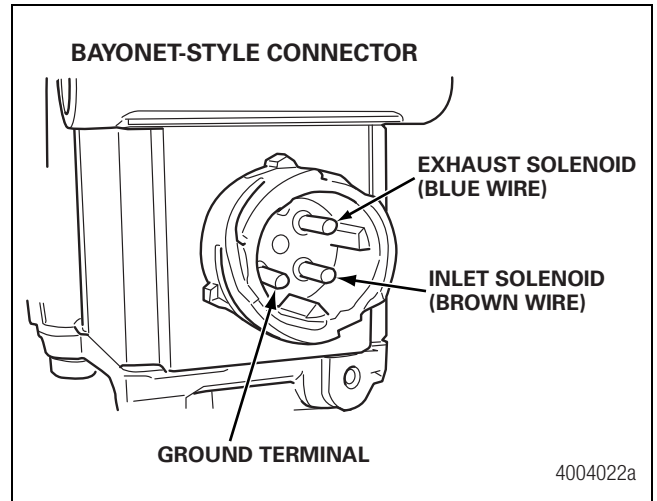
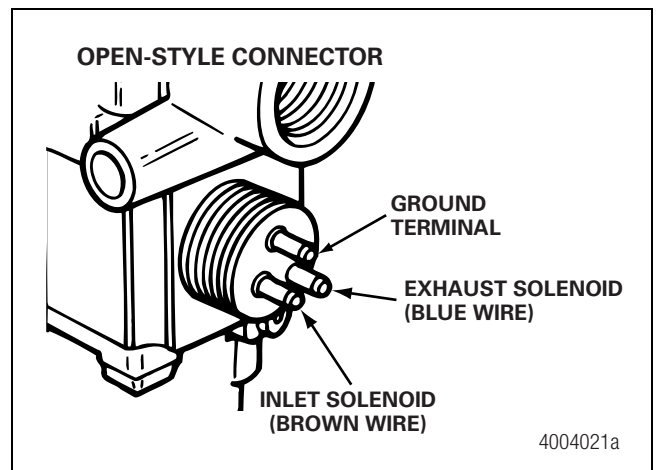

Figure 3.16
Figure 3.17
- Check modulator valve by itself for resistance. Figure 3.16 and Figure 3.17.